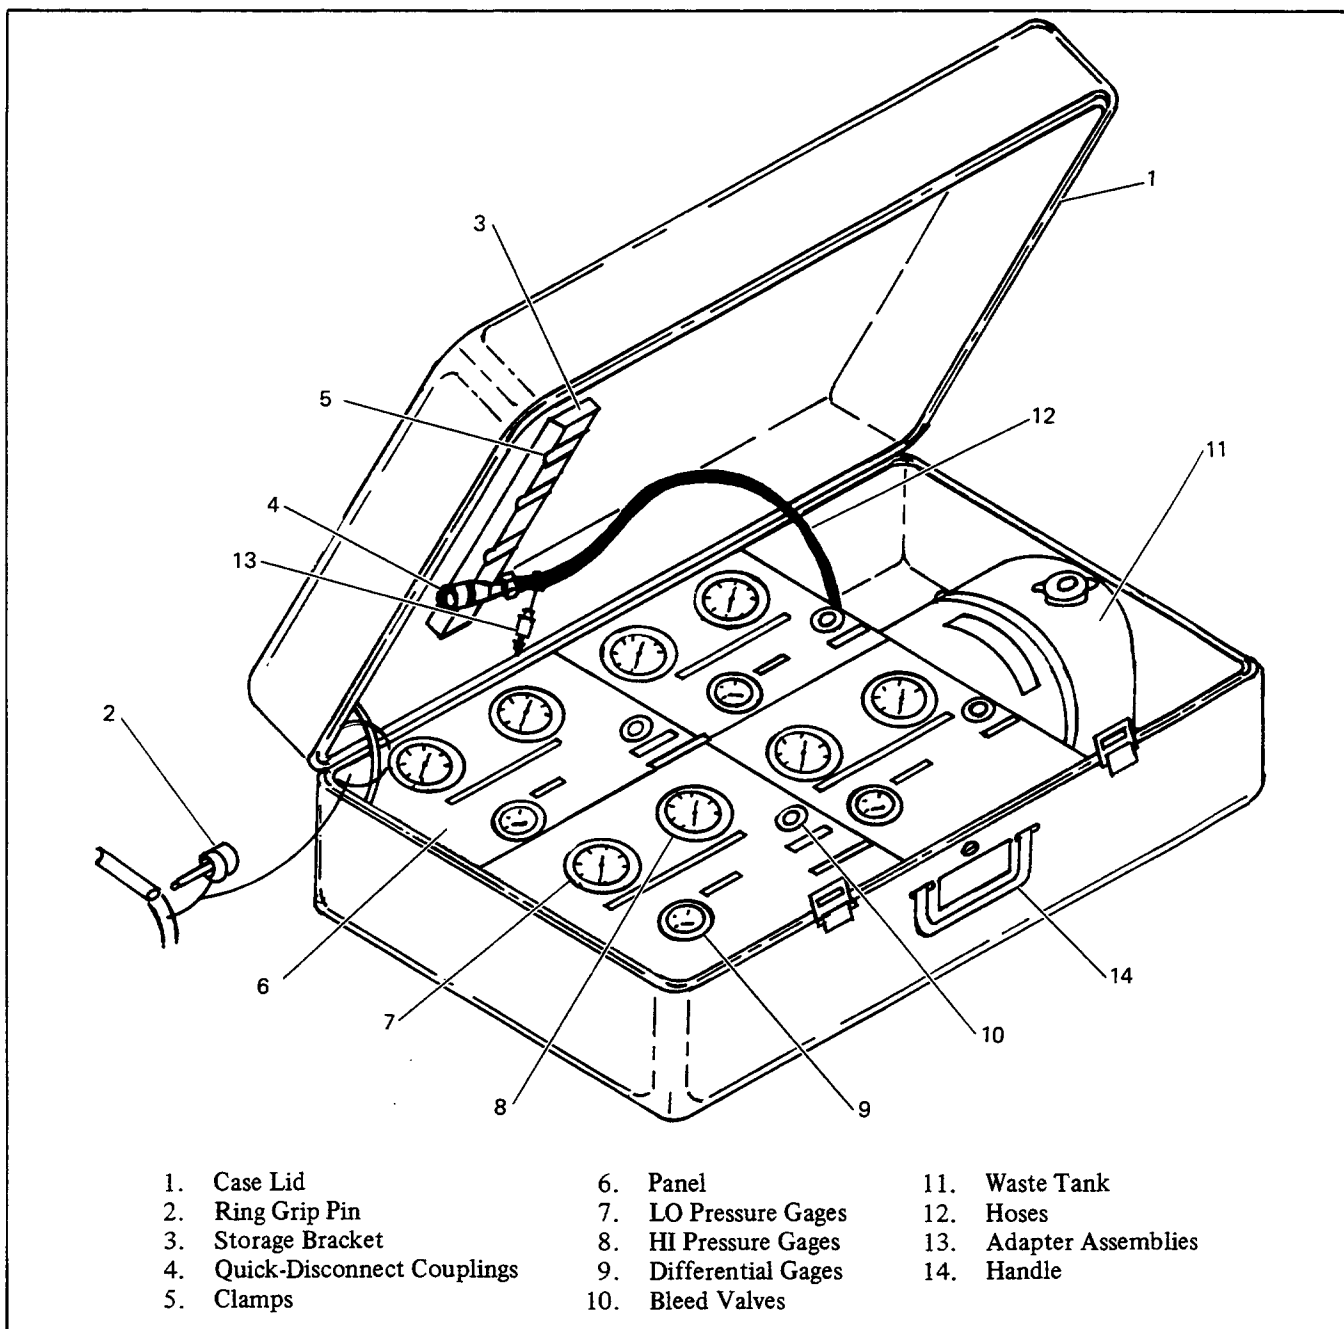

Figure 4-2. Brake Pressure Test Set
- a. Open lid (1, Figure 4-2) and secure ring grip pin (2).
- d. Check that the washer on adapter fitting (13, Figure 4-2) is in its groove and is not damaged.